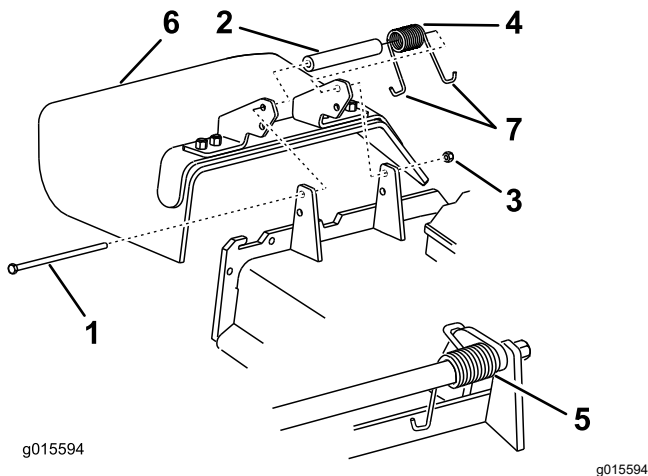

Figure 51
3. Remove the locknut, bolt, spring, and spacer holding the deflector to the pivot brackets (Figure 51).
4. Remove the damaged or worn grass deflector (Figure 51).
8. Place 1 J-hook end of the spring around the grass deflector (Figure 51).
Note: Make sure that 1 J-hook end of the spring is installed behind the deck edge before installing the bolt as shown in Figure 51.